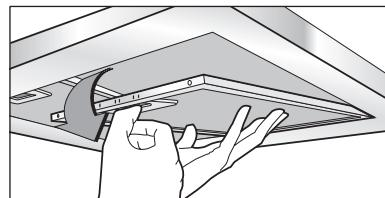

Fig.8
- The minimum distance between the support surfaces of the cooking pots on the cooker top and the lowest part of the cooker hood must be at least **65 cm**. If a connection tube composed of two parts is used, the upper part must be placed outside the lower part. Do not connect the cooker hood exhaust to the same conductor used to circulate hot air or for evacuating fumes from other appliances generated by other than an electrical source. Before proceeding with the assembly operations, remove the anti-grease filter(s) (Fig. 8) so that the unit is easier to handle.
- METALLIC ANTI-GREASE FILTERS (Fig. 8):